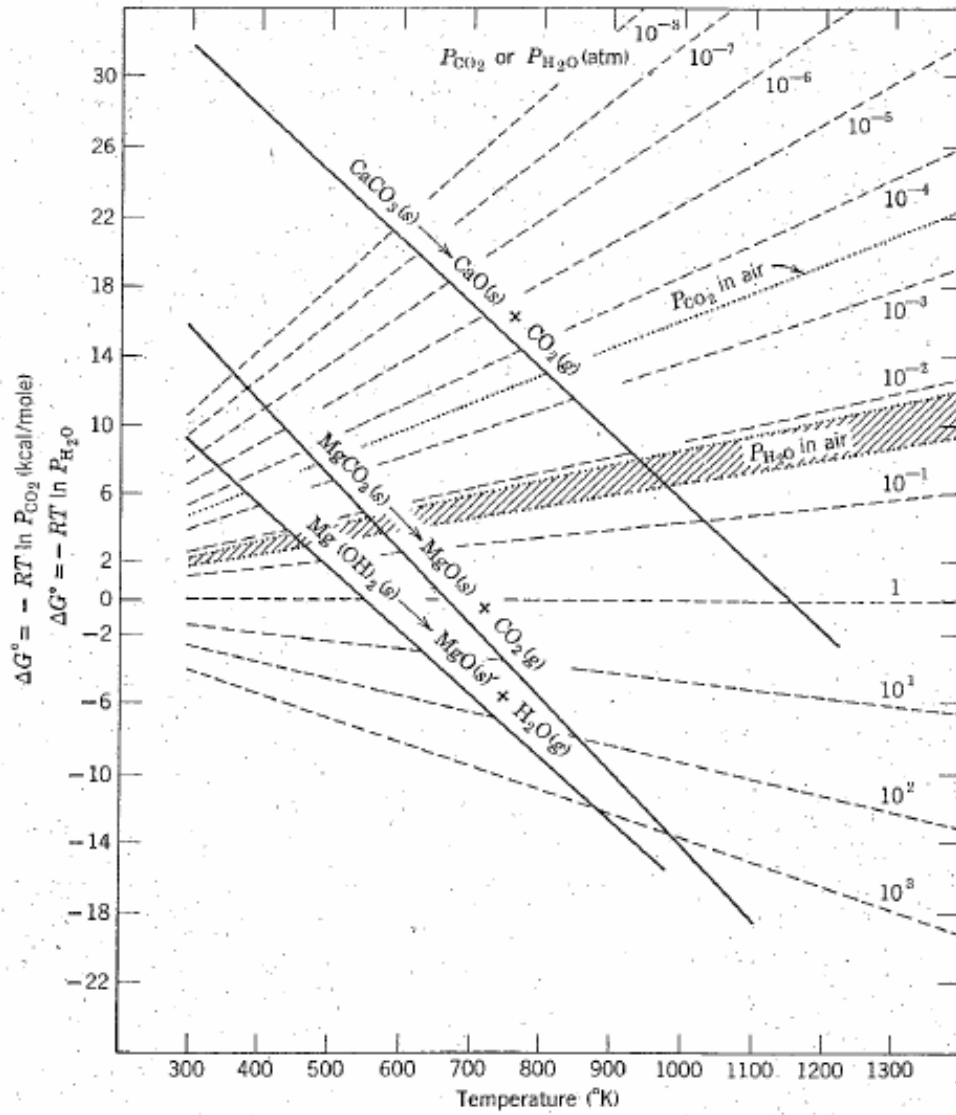

Figure 1.2: Thermodynamic data for Mg and Ca oxides and carbonates.
- 2) In the days before the industrial revolution the  $P_{CO_2}$  in the earth's atmosphere was 275 ppm. Use the data in Figure 1.2 to calculate how high one would need to heat  $CaCO_3$  to decompose it at a  $P_{CO_2}$  for the preindustrial concentration of 275 ppm and for present day  $P_{CO_2}$  (You will have to look this up, please give your source). Also calculate how high one would need to heat  $CaCO_3$  to decompose it if the  $CO_2$  level in the atmosphere reaches 500 ppm.